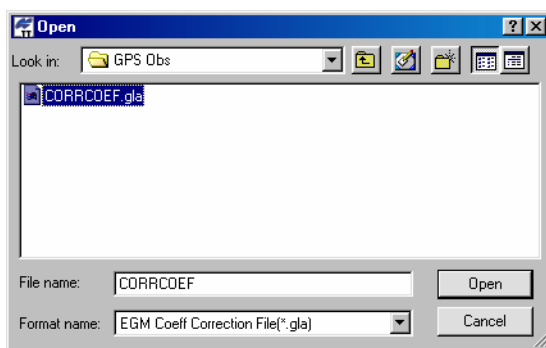

Figure A-2. Correction File Selection
- Select the CORRCOEF.gla file and click **Open** (Figure A-2).